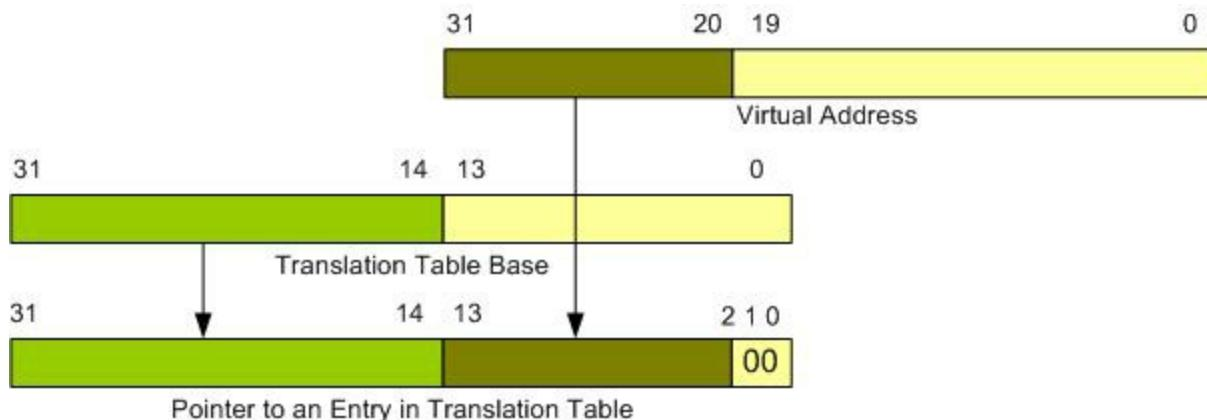

Figure 15-2: Accessing Translation Table
- a) The upper 12 bits (A31–A20) are used for an entry into what is called a ***translation table*** or page directory. There is a 32-bit register inside the ARM MMU that holds this physical base address of the translation table. Since the upper 12 bits of the virtual address point to the entry in the translation table, there can be 4,096 entries ( $2^{12} = 4096$ ). Each entry in the translation table is 4 bytes and the pointer to each entry should be word aligned. Note that the two LSB bits of the pointer to an entry in the translation table are zeroes. Figure 15-2 shows how bits A31 to A20 of virtual address and bits 31 to 14 of Translation Table Base Register are concatenated to produce a pointer to an entry in the translation table.